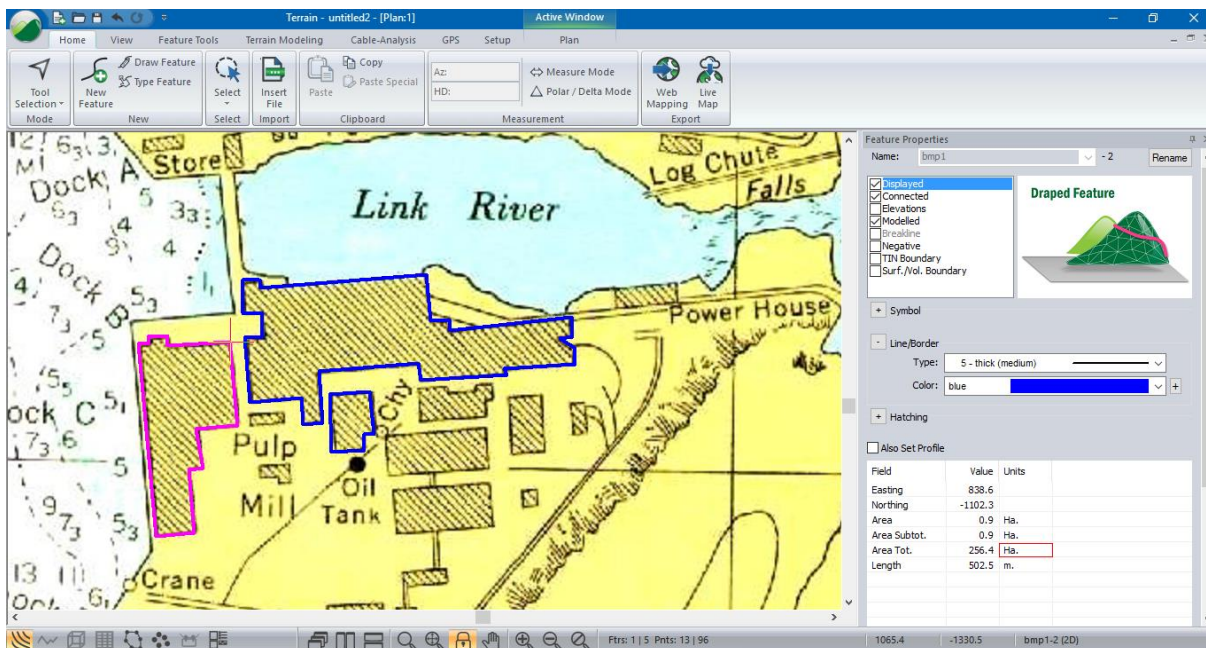

Figure 4-7: Traced Buildings with Status Details in the Feature Property Panel
17. Trace around the boundary of three of the buildings using the mouse (like in Figure 4-7):
18. Select each building perimeter with the mouse and look at the *Status* portion of the *Feature Properties* window. (Figure 4-7). If the panel is not currently showing, select  from the bottom navigation bar, or *View* | *Add to Panel* | *Feature Properties*.